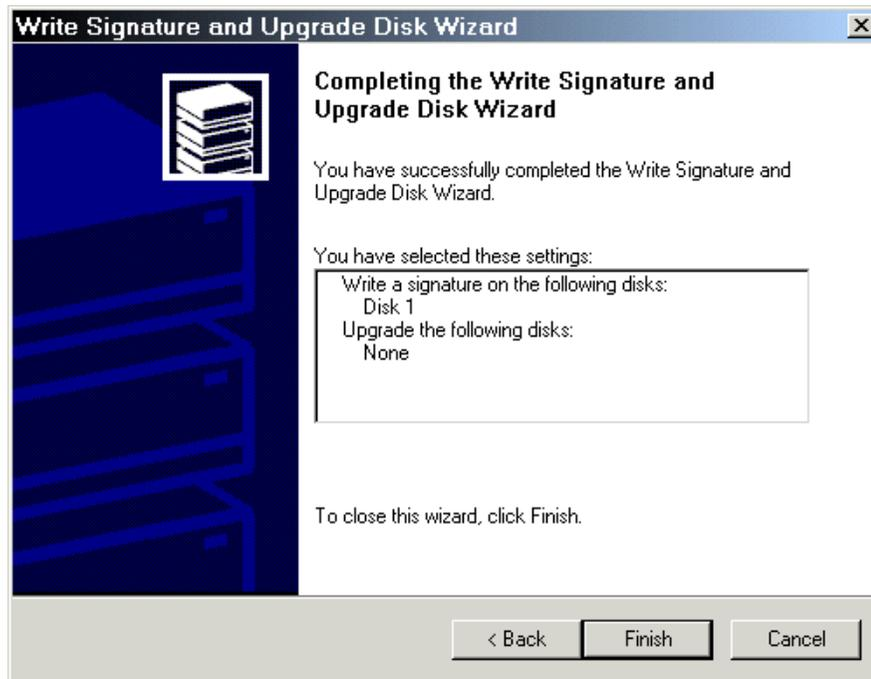

Figure 1-17 Completing the Write Signature task
7. Click **Finish** to complete the Write Signature task, as shown in Figure 1-17.